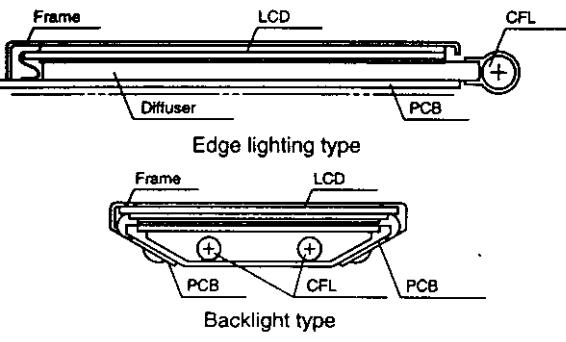

Figure 4b
**Cold Cathode Fluorescent Lamp (CFL):** CFL backlight low power consumption and a very bright white light (Figure 4b). Two technologies are used: direct and edge. In both types a cold cathode fluorescent tube is the source. A diffuser distributes the light evenly across the area. Edge lighting offers a thinner package and less CFLs require an inverter to supply the 270 to 300 VAC by the CFL tube. They are used primarily in graphic and have a longer life — 10,000 to 15,000 hours — as do.